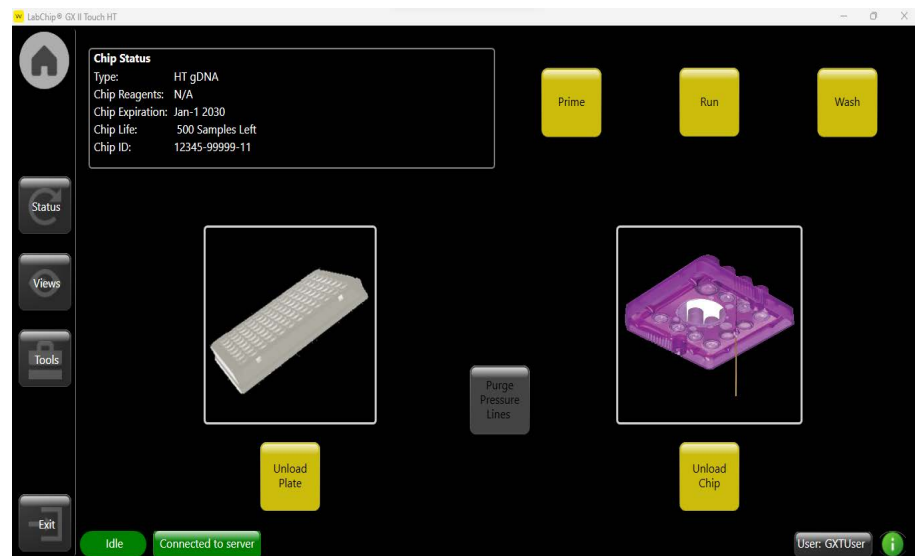

Figure 6. Home screen.
- 5 Touch the *Load Plate* button on the *Home* screen (Figure 6) to retract the sample plate and send the sipper to the Buffer Tube.